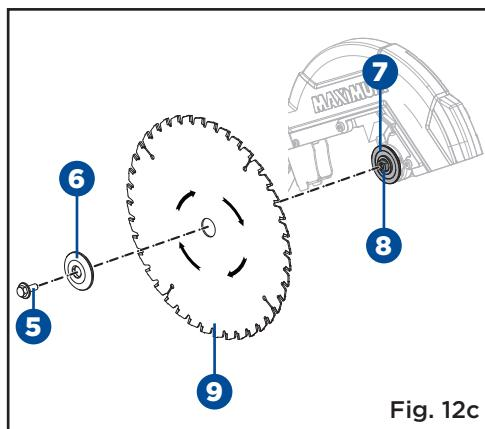

Fig. 12c
- Loosen the arbour bolt (5) with wrench (supplied). Remove the arbour bolt (5) and outer flange (6) (Fig. 12c).